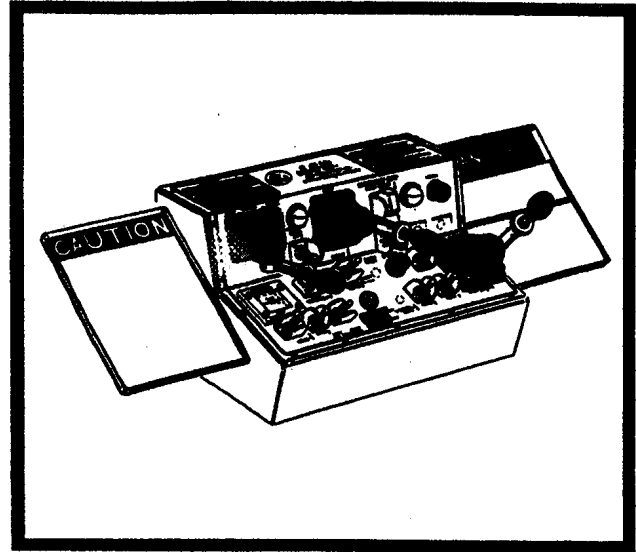

Figure 3-5. Platform Control Station.
c. Platform Station. (Figure 3-5)